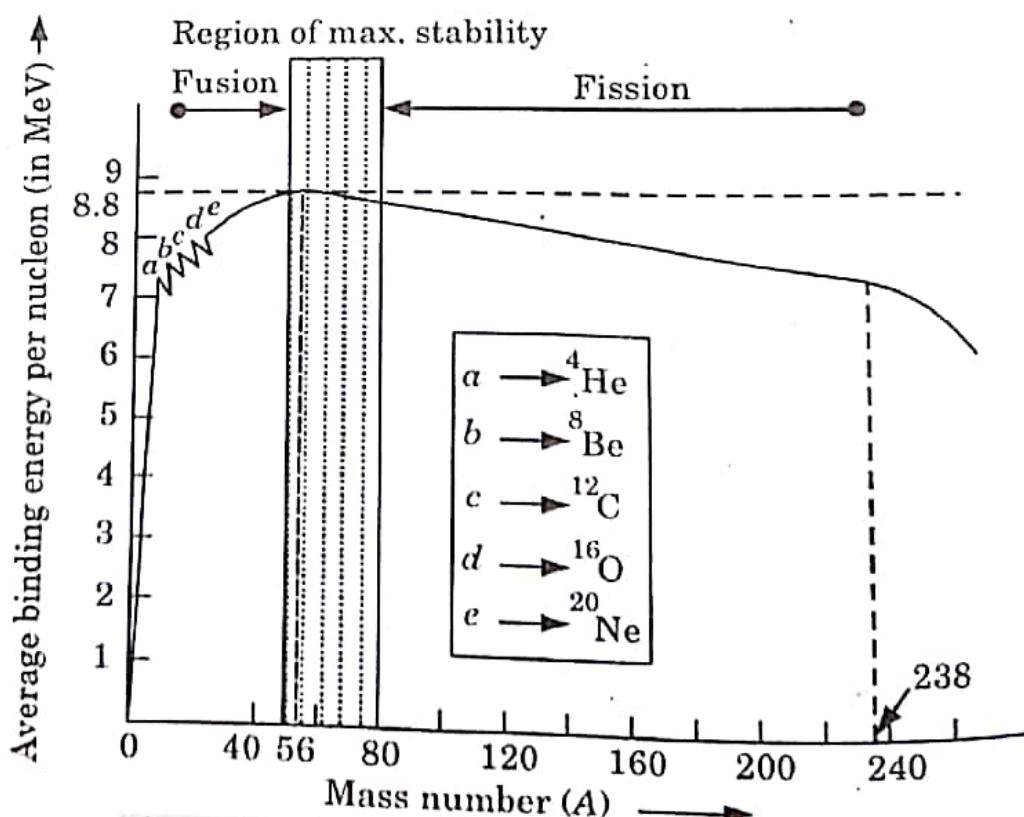

Fig. 2.7.1. Plot of binding energy per nucleon as a function of mass number.
2. Fig. 2.7.1 shows binding energy curve. The average binding energy per nucleon is plotted against mass number for naturally occurring nuclei.